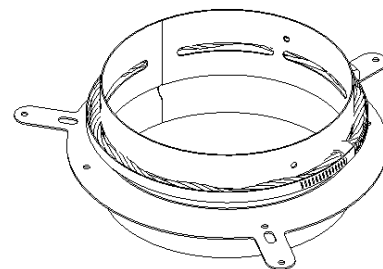

Figure 3-5: 6CON Liner Connector
The Elegance ST fireplace can be connected to a masonry chimney that complies with current national and municipal building codes. A 6 inch chimney liner that complies with ULC S635 M2000 (Canada) or UL 1777 (US) standards must be installed within the existing masonry chimney. Note that the 6CON connector (manufactured by SUPREME FIREPLACES INC.) must be installed to connect the prefabricated chimney to the liner (6CON sold separately). Refer to Figure 3-5 and Figure 3-6. Note that prior to installation, an inspection from an authority having jurisdiction is required to determine whether the masonry chimney: